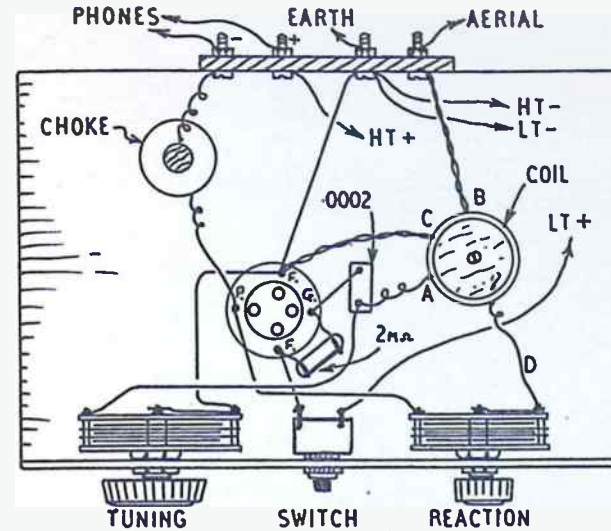

Fig. 4—Complete wiring plan of receiver
Connecting up will be simplified if the ends are long enough to reach the appropriate points, as in Fig. 4. (A) goes to the $.0002\mu\text{F}$ fixed condenser and fixed plates of the tuning condenser. (B) is taken directly to the aerial terminal. (C) goes to the earth circuit and moving plates of tuning condenser, while (D) is connected to the moving plates terminal of the reaction condenser. The enamel must be scraped away at connecting points.
A terminal strip, of paxolin or ebonite, is screwed to the base, as in Fig. 4, and can be about 3ins. by 1in. high. Four small bolts or terminals are necessary. Alternatively, a 4-way socket strip can be used, and aerial, earth and phone leads fitted with plugs to insert in this.